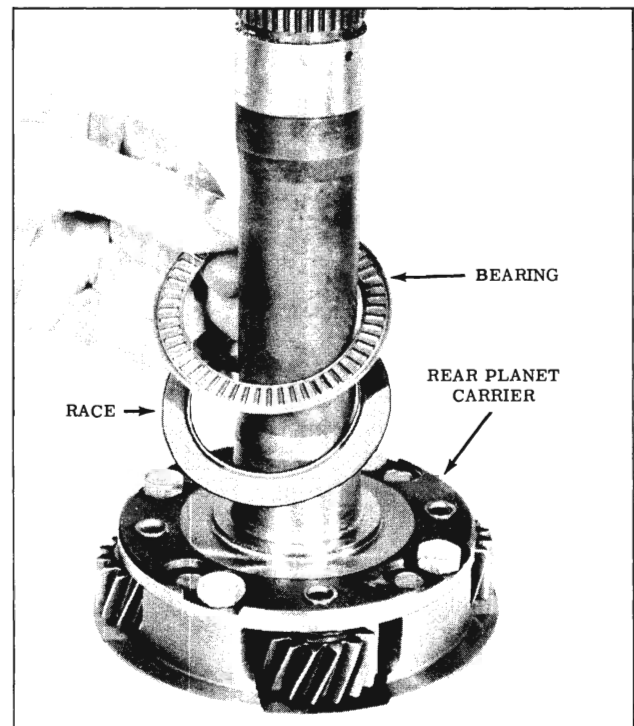

Fig. 3-99 Thrust Bearing and Races
17. Install bearing race (inner flange out) and bearing on rear planet carrier. Retain with petrolatum. (Fig. 3-99)